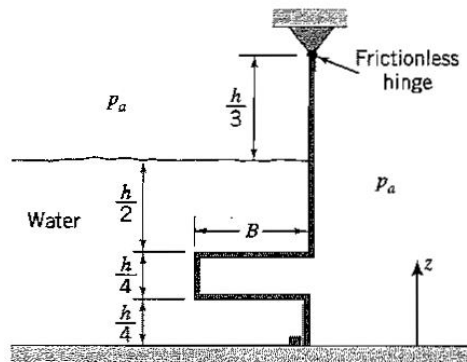

Figure P2.89.
2.89 If the weightless gate shown in Figure P2.89 was just on the point of opening, find an expression for B in terms of h .